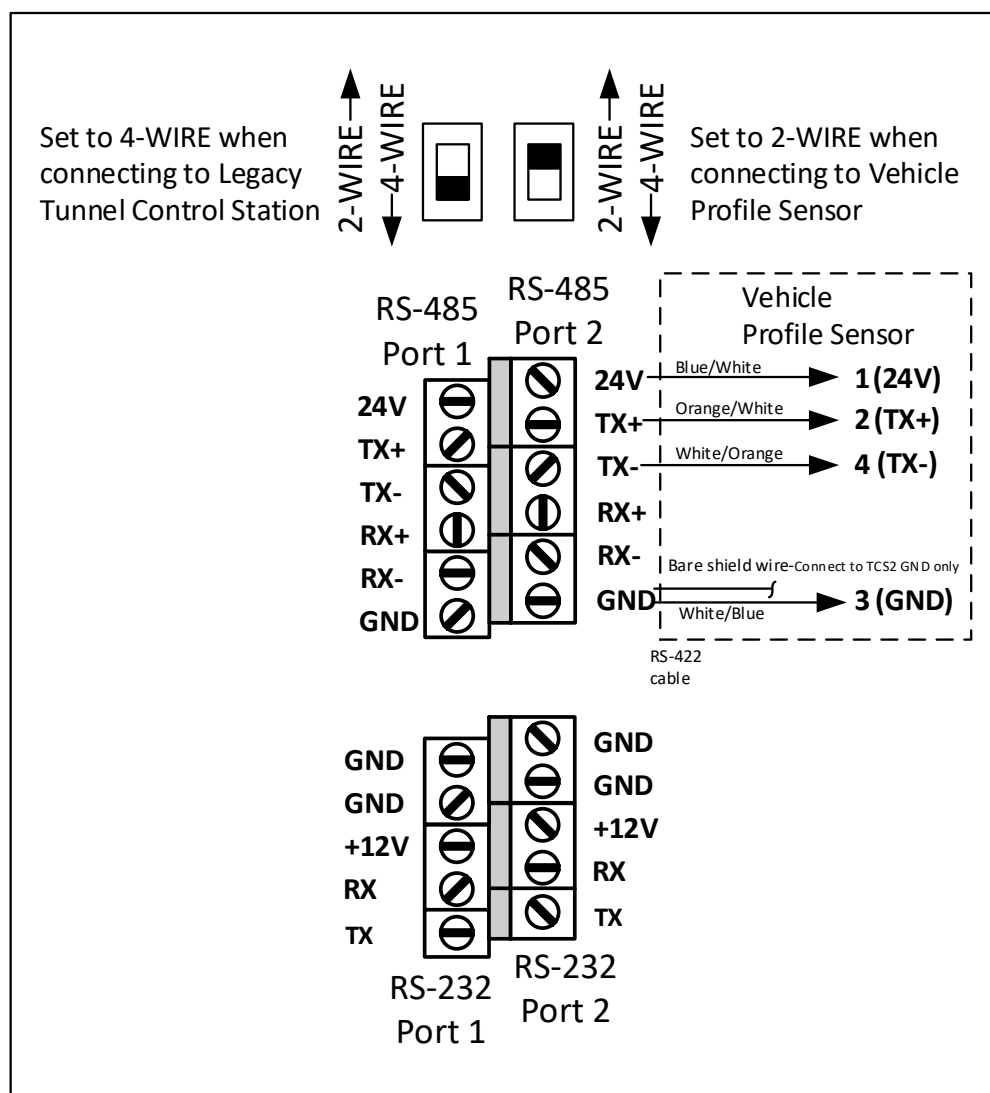

Figure 20: TCS3 to Vehicle Profile Sensor Wiring
- a. See Figure 20: TCS2 to Vehicle Profile Sensor Wiring.
- b. See Figure 20: TCS2 to Vehicle Profile Sensor Wiring.